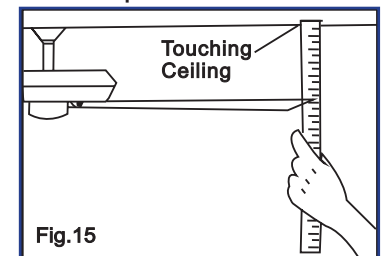

Fig.15
5. Most fan wobble problems are caused when blade levels are unequal. Check this level by selecting a point on the ceiling above the tip of one of the blades. Measure this distance as shown in Figure 15. Measurements deviation should always be within 1/8". Rotate the fan until the next blade is positioned for measurement. Repeat for each blade.